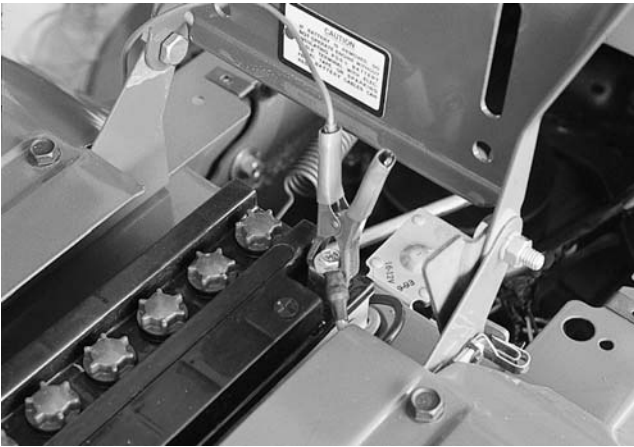

Figure 3-25.
8. To check for proper electrical ground, connect one side of your meter or test light to the positive terminal of the battery. See Figure 3-25.